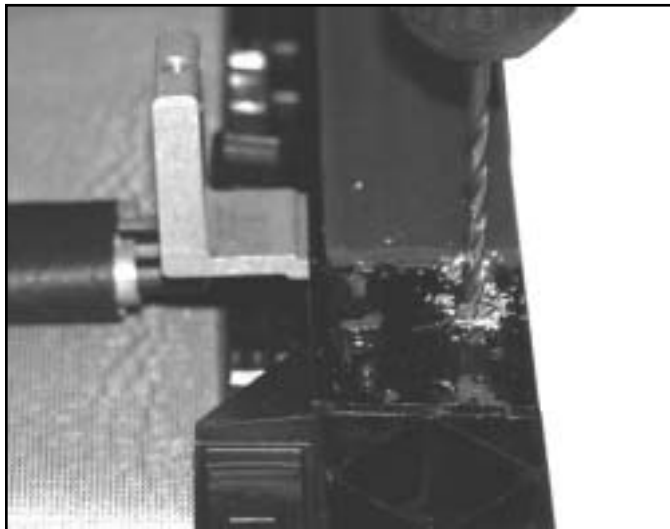

Figure S-4
4. Drill out the three (3) retaining rivets using caution not to drill into the track. See figure S-4.